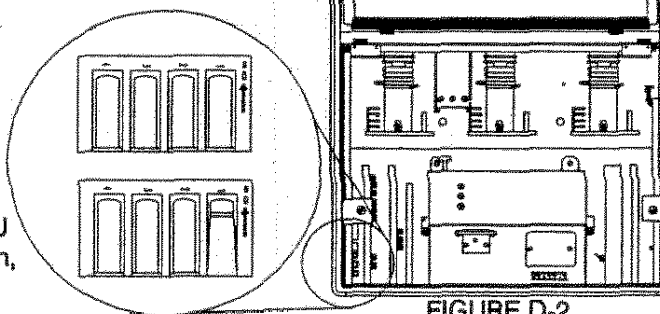

FIGURE D-2.
- STEP 5. Locate DIP switch SW4 on the CPU module. Change SW4-1 to the "ON" position, replace the power cord and energize the system. Refer to Figure D-2.